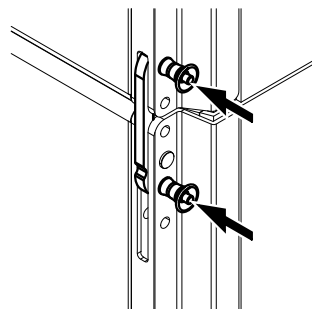

Fig. 13: SUB to SUB, 0° splay
- b. SUB to SUB with 0° splay between the cabinets (⇒ Fig. 13).